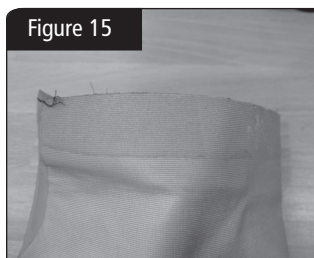

Figure 15
12. Rotate the wrist seal and repeat steps 9 to 12 until the seal has been completely separated. See Figure 15.